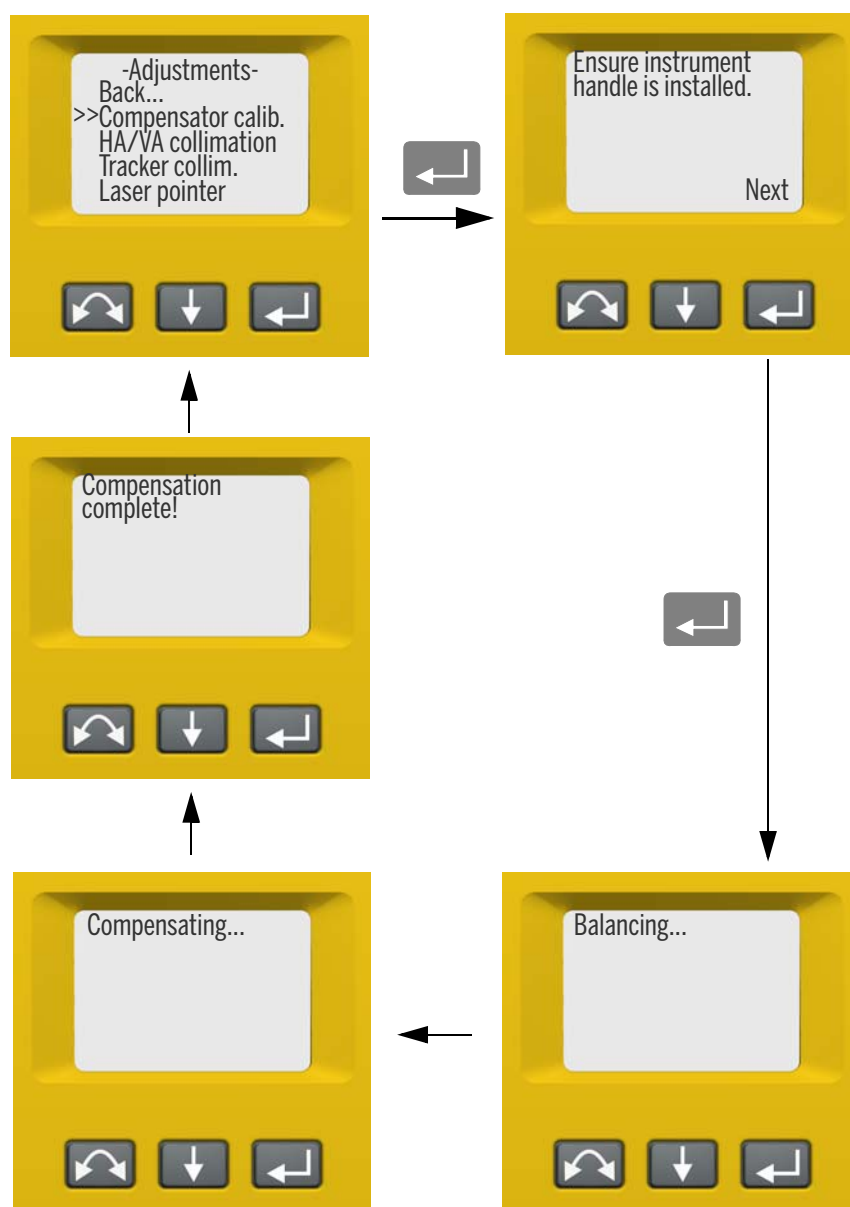

Figure 3.12 Compensator calibration routine
- Follow the instructions in the display. Figure 3.12.